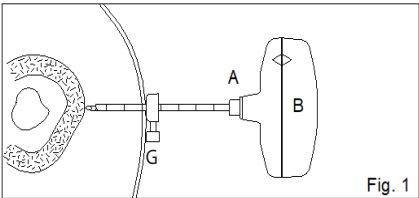

Fig. 1
FIG. 1 Depending on the depth of the bone to be reached, adjust the depth gauge (G) on the Cutting Cannula (A) to the appropriate centimeter marker and tighten to provide a visual guide. Introduce by rotating counterclockwise the assembled Cutting Cannula and Stylet with Trocar Tip (A+B) until engaged with the bone surface.